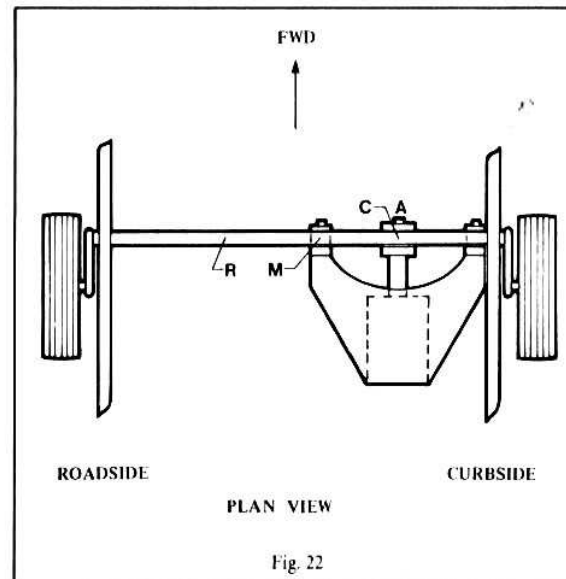

Fig. 22
2. Place cylinder jaw (A) at position (C) to correct curbside wheel. (See Fig. 22)
3. Place cylinder jaw (A) at position (R) to correct roadside wheel.
4. Place cylinder jaw (A) at position (M) only when both wheels need to be bent equal amounts in the same direction.
5. Cylinder jaw (A) is moved toward front of the trailer to decrease the amount of toe in.
6. Cylinder jaw (A) is moved toward rear of the trailer to increase the amount of toe in.
HYDRAULIC AXLE STRAIGHTENER (Part #3410001) (less floor jack) (Fig. 22)